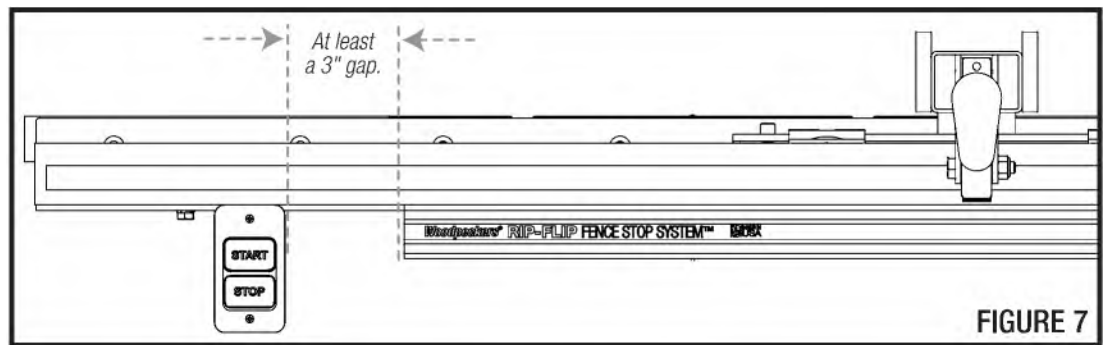

FIGURE 7
2. With all the Mounting Brackets properly installed, slide on both T-Slot Tracks. Start by sliding one on from right to left. Leave at least 3" of space between the left end of the T-Slot Track and the table saw power switch. This allows for room to remove a Rip-Flip Stop on the left end. Slide the second T-Slot Track in from the right, and leave a gap between the two T-Slot Tracks to allow installation of the Track Coupling Plate (A-5). **FIGURE 7.**